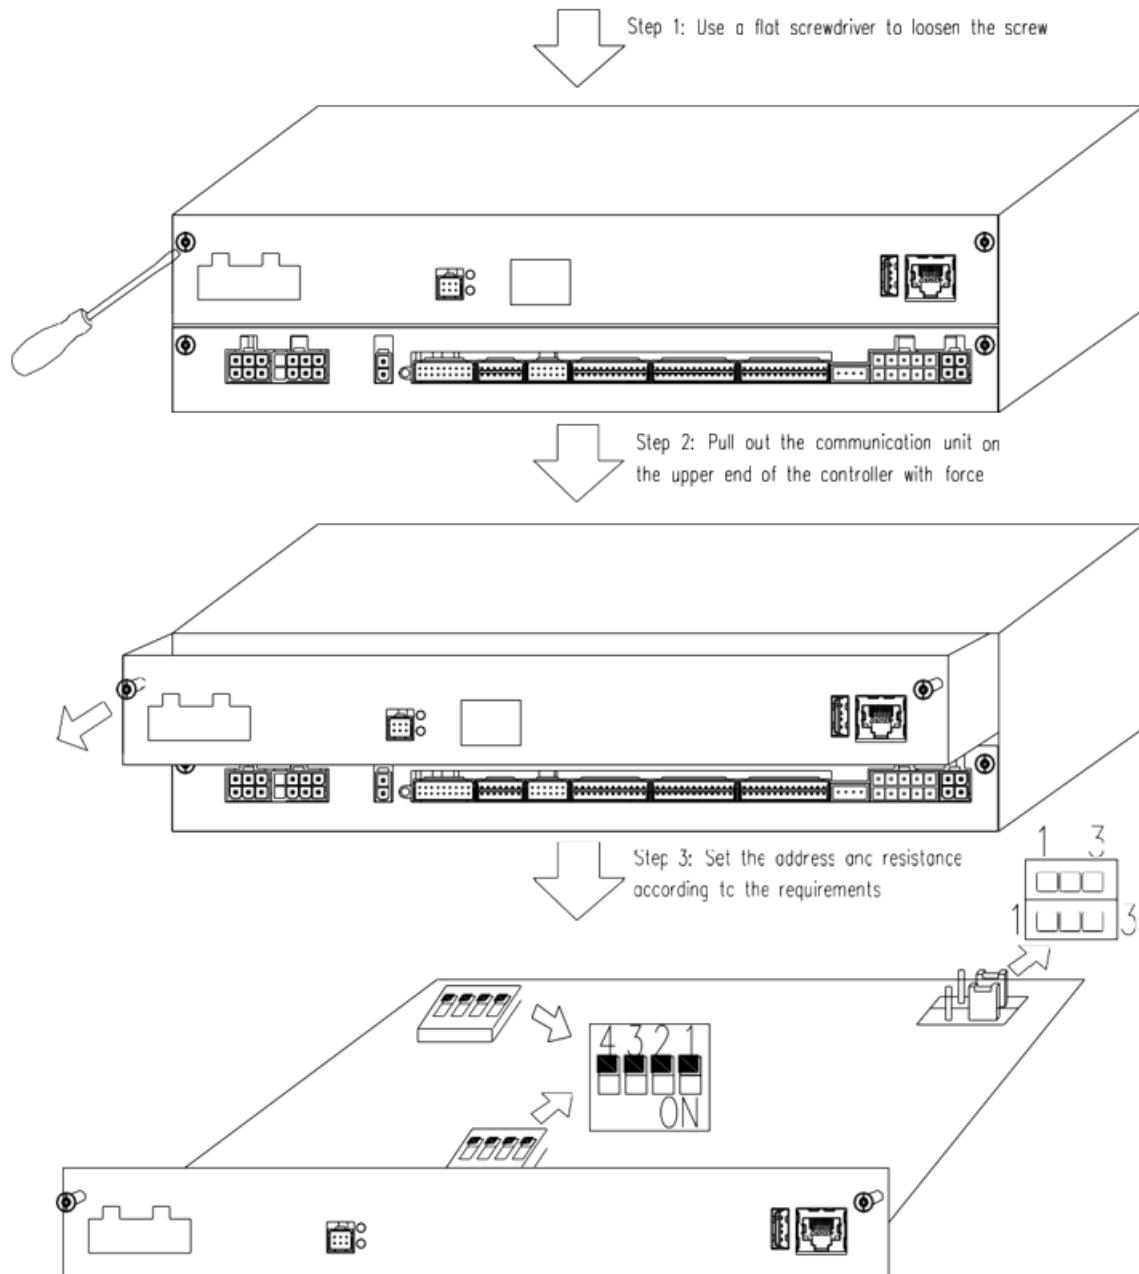

Figure 5.29 Address setting diagram
- Controller Dialing and resistance settings are shown in figure 5.29